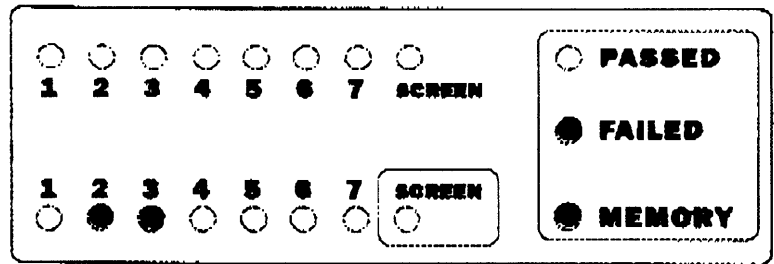

Fig7. SHORT TO AN ADJACENT PIN.
- A short was found, on the lower connector, where no connection existed before (Fig7.)